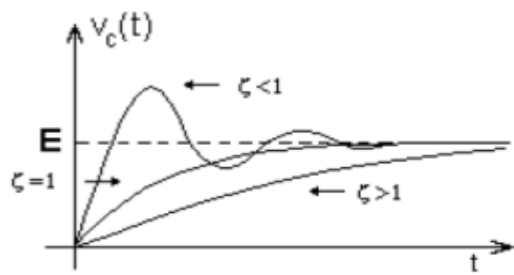
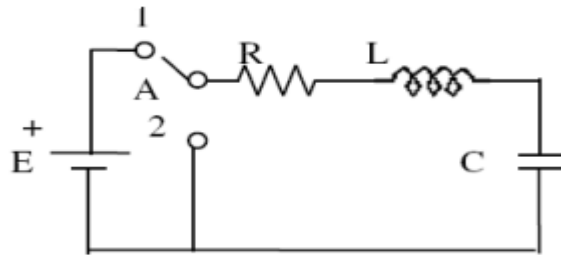
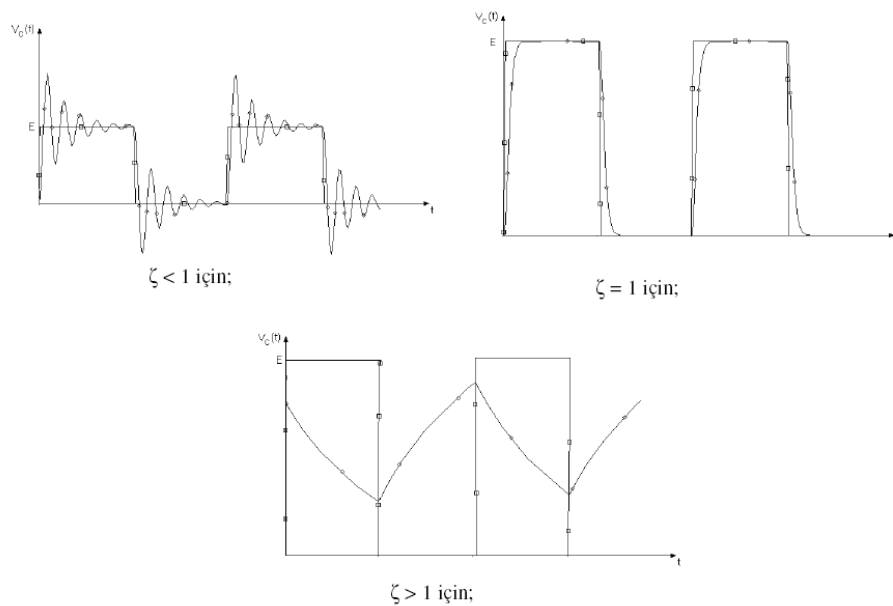

Figure 13
Figure 14
Figure 15
By taking $v_C(0) = 0$, $i_L(0) = 0$, for three situation the variance of $v_C(t)$ with time is drawn in Figure 13 rudely.
As seen in Figure 13, the voltage on the capacity edges goes to E for both of the three condition. Let's consider $e(t)$ is a source in the form of pulse as $E(u(t)-u(t-D))$. In this case, it will be easy to interpret the circuit as Figure 14. After A key is kept on (1) position for D time, it will be taken to position (2). Assume that the initial conditions are $v_C(0)$, $i_L(0)$. During the key is kept on position (1), in the interval of $0 \leq t < \Delta$, by considering value of z , one can use either equation (23) or (24) and (25). At the time $t = \Delta$, we can find $i_L(\Delta)$ and $v_C(\Delta)$ by using these equations. If key is on the position (2), since there is no source in the circuit, only natural solution is obtained. For $t > \Delta$, in order to find $v_C(t)$ and $i_L(t)$, it can be used one of the equations of (23), (24), (25) in terms of z values. For $t > \Delta$, in order to determine $v_C(t)$ and $i_L(t)$, it is enough to write $(t - \Delta)$ instead of t ; $v_C(0)$ and $i_L(0)$ instead of $v_C(\Delta)$ and $i_L(\Delta)$; zero instead of E . If we assume that Δ is big enough, the change of $v_C(t)$ in terms of ζ will be as shown in Figure 15.